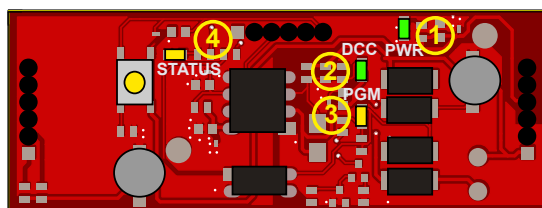

Fig.2
After connecting everything as described, activate the DCC signal with the controller. Green LEDs 1 and 2 will light up, indicating that the connections are correct and the decoder is on. (figure 2).
- The flashing of LED no. 3 on the DCC100 module (fig. 2) means that it is responding to the control unit during programming.
The LED no. 4 in fig. 2 stays on as long as the decoder is switching an accessory. To make a precise adjustment of the times it is advisable to operate the accessory, and check that the switching is complete. For example, in the case of a switch, check that the needle has reached the end of the stroke when the motor stops and LED no. 4 turns off. In order to keep a reasonable safety margin, it is advisable to check that LED n.4 goes off a few tenths of a second after switching. If the switching is not complete, increase the switching time.